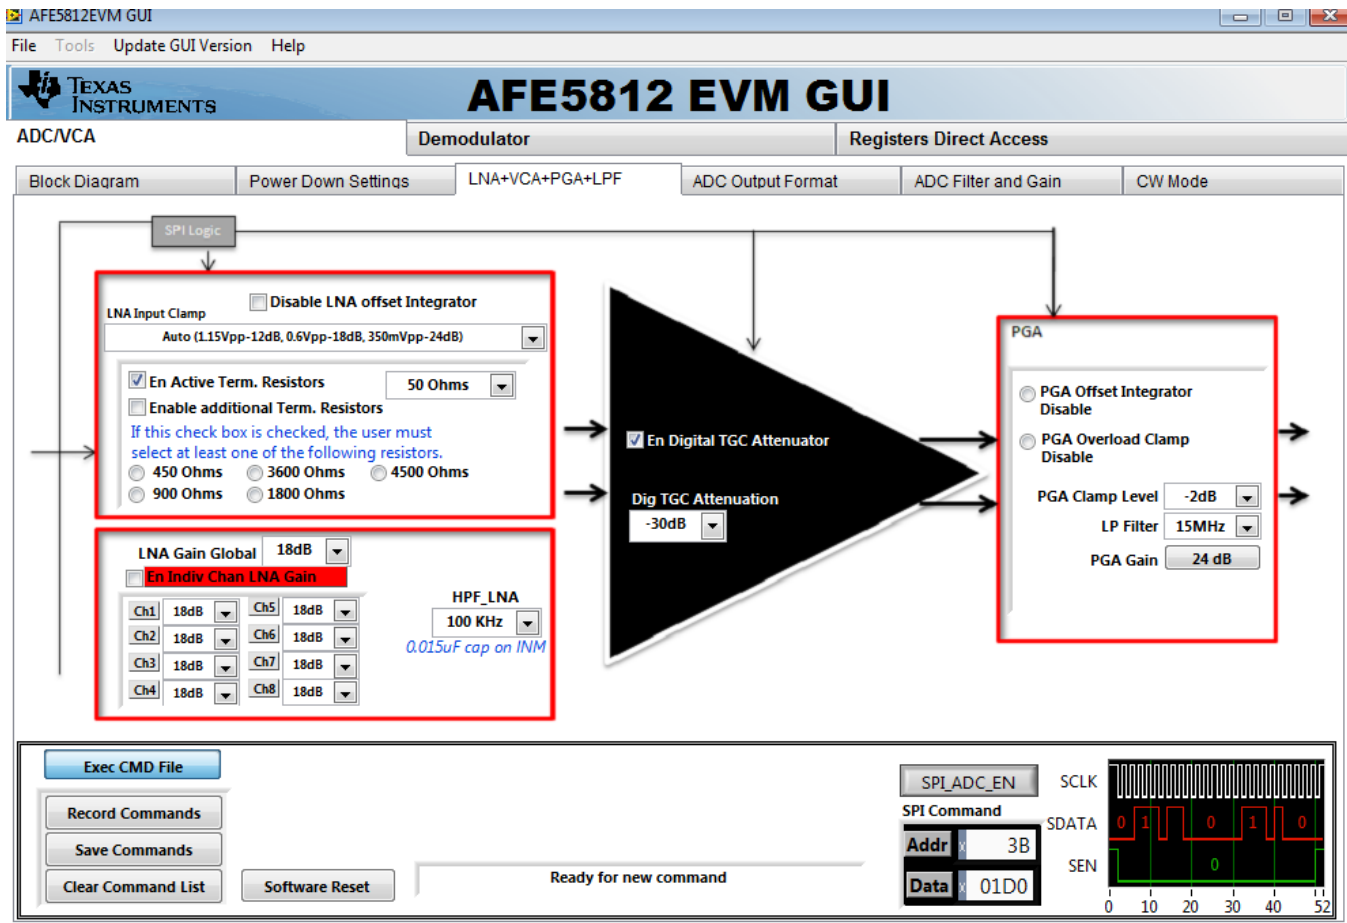

Figure 9. VCA Setup
2. Next, On the 'LNA+VCA+PGA+LPF' page of the AFE GUI, enable the Active termination resistors and enable the Digital TGC attenuator as in Figure 9. Set the Attenuation to 30dB.